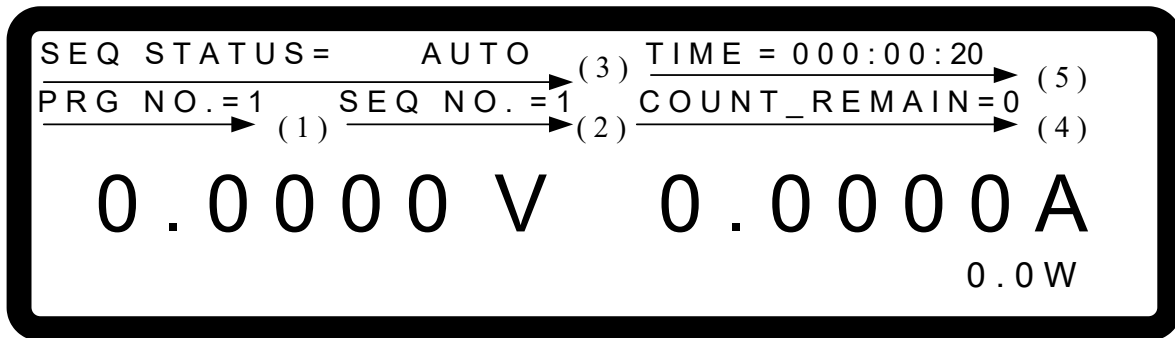

Figure 4-17
Figure 4-17 shows the main execution page of LIST MODE. Items (1)~(5) in the figure are explained below.